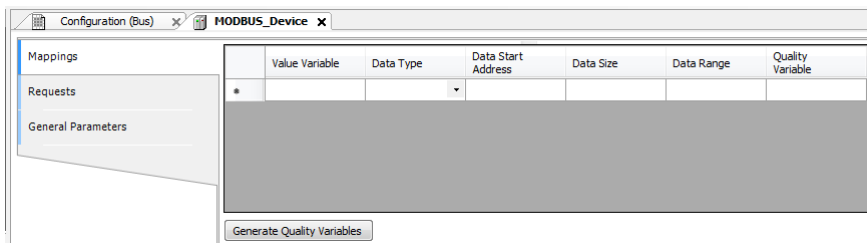

Figure 87: MODBUS Data Mappings Screen
- Add and configure the MODBUS mappings on Mappings tab as Figure 87, specifying the variable name, data type, and the data initial address, the data size and range are filled automatically.